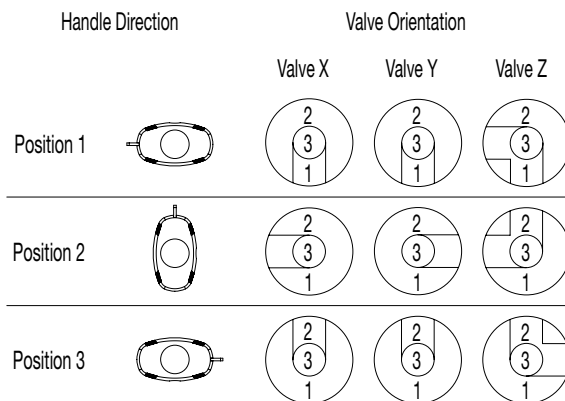

Fig. 8 3-Valve GSM Assembly Schematic
2. Turn the handle to position 2. (Refer to Fig. 8, 3-valve assembly schematic.) Note orientation of gears as they will need to be reassembled in the same orientation.
2. Turn the handle to position 1. (Refer to Fig. 8, 3-valve assembly schematic.) Note orientation of the gears and handle as they will need to be reassembled in the same orientation.
2. Turn the handle to position 1. (Refer to Fig. 8, 3-valve assembly schematic.) Note orientation of the gears as they will need to be reassembled in the same orientation.